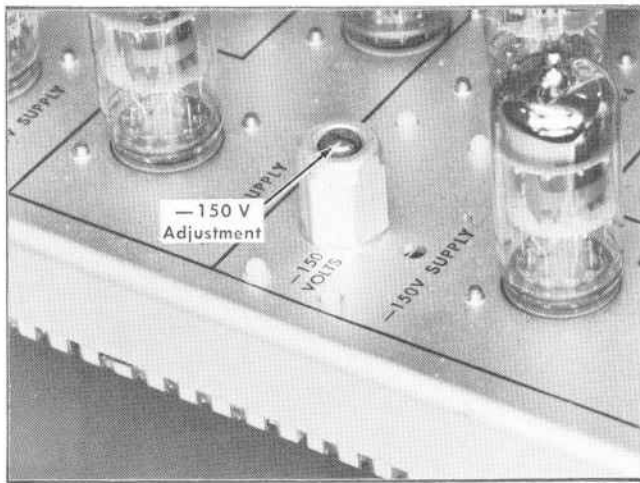

Fig. 6-5. Location of -150 Volts adjustment (step 1b).
b. Set the —150 Volts adjustment (see Fig. 6-5) for a reading of —150 volts on the meter.